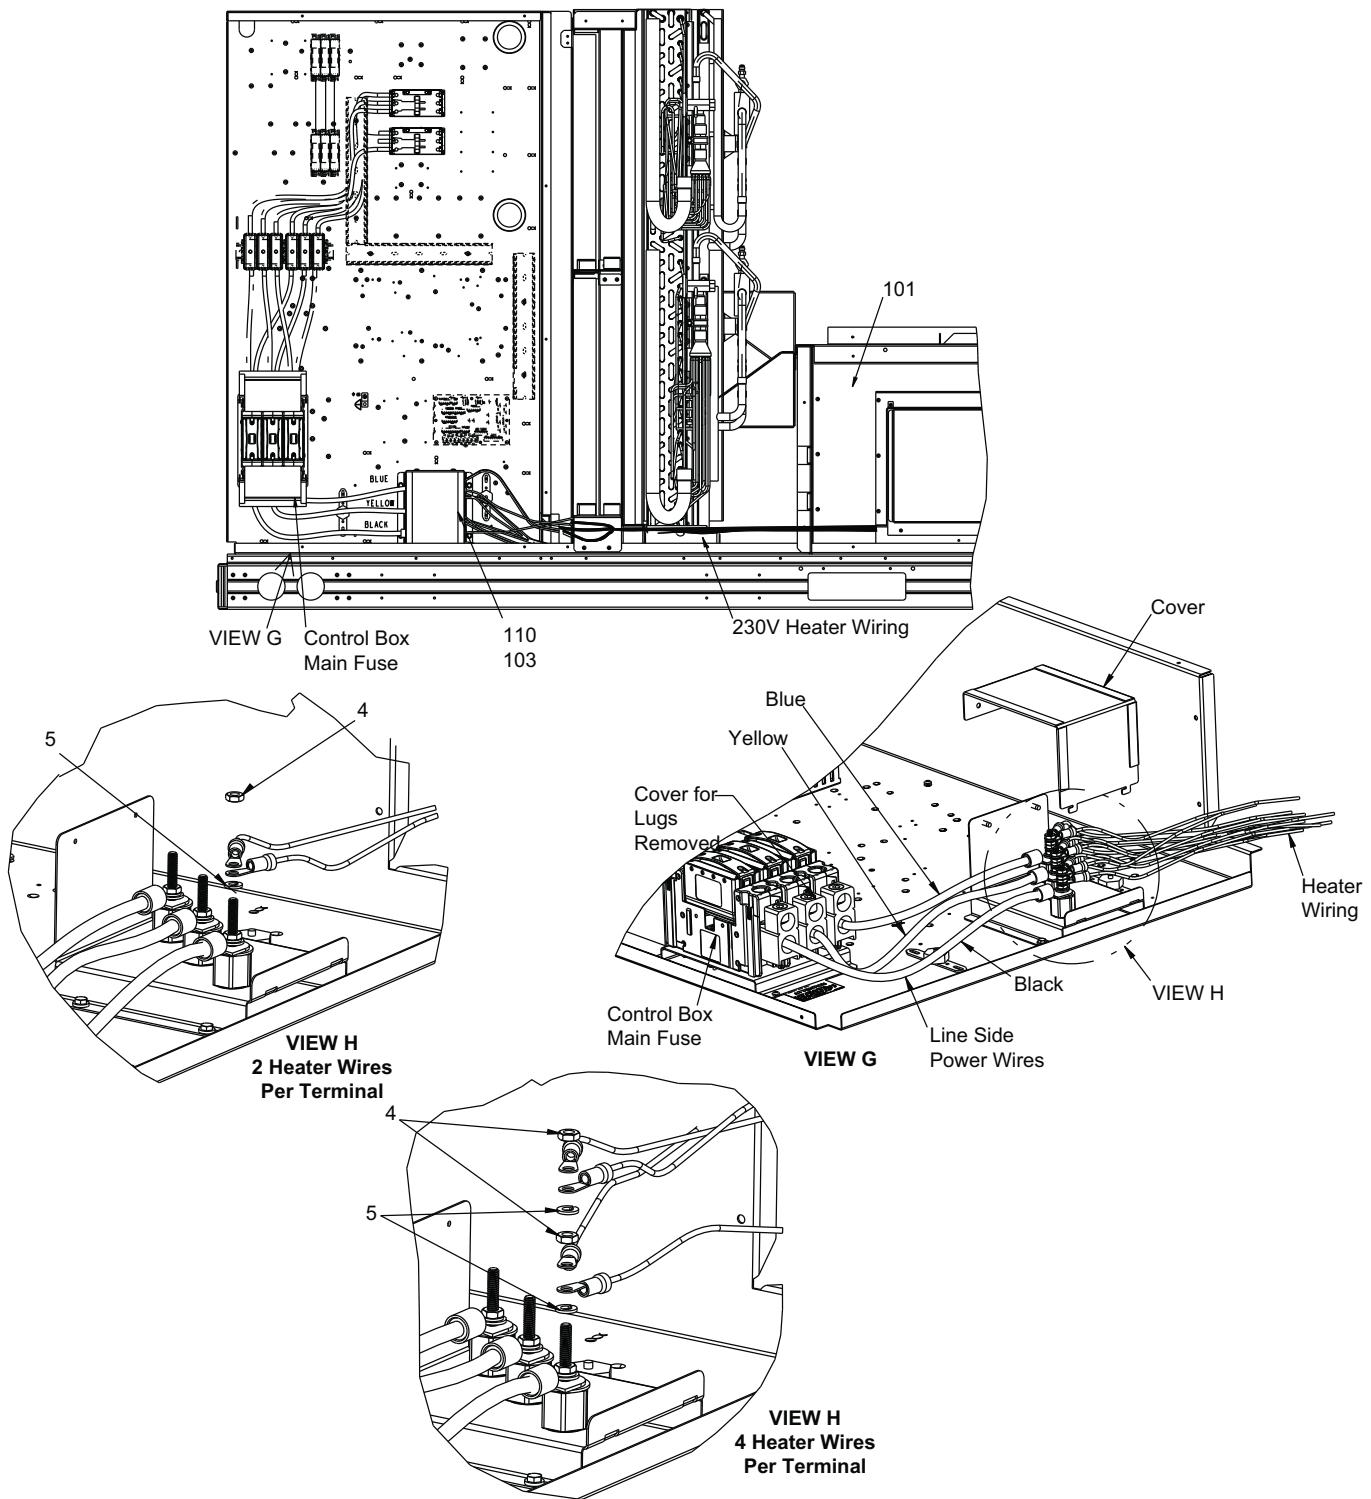

Fig. 52 — 230V Single Point Power Assembly Location (High SCCR)
1. Install terminal block assembly in location shown in Fig. 52.
For 4 wire/leg assembly: add lock washers (Item 5), turn bottom two wires so barrel of terminal is down as shown in Fig. 52. Add nut (Item 4) and tighten to 9-10 Nm (79 in.-lb). Add second lock washer (Item 5), the top two wires shall be installed with barrels "up." Add second nut (Item 4) and tighten to 9-10 Nm (79-88 in.-lb).